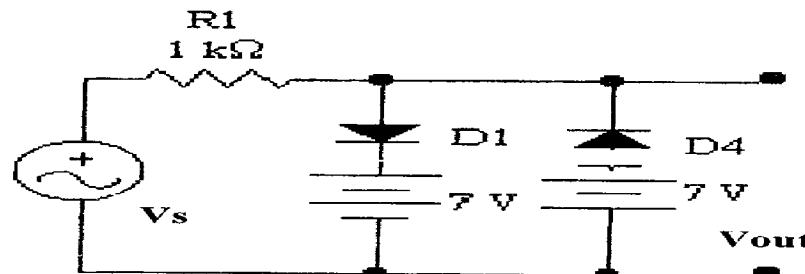

FIGURE 2
- b-Figure 2 shows a circuit combining a positive -biased limiter with a negative - biased limiter .Draw the output voltage waveform. .Given  $V_s = 14 \sin(\omega t)$